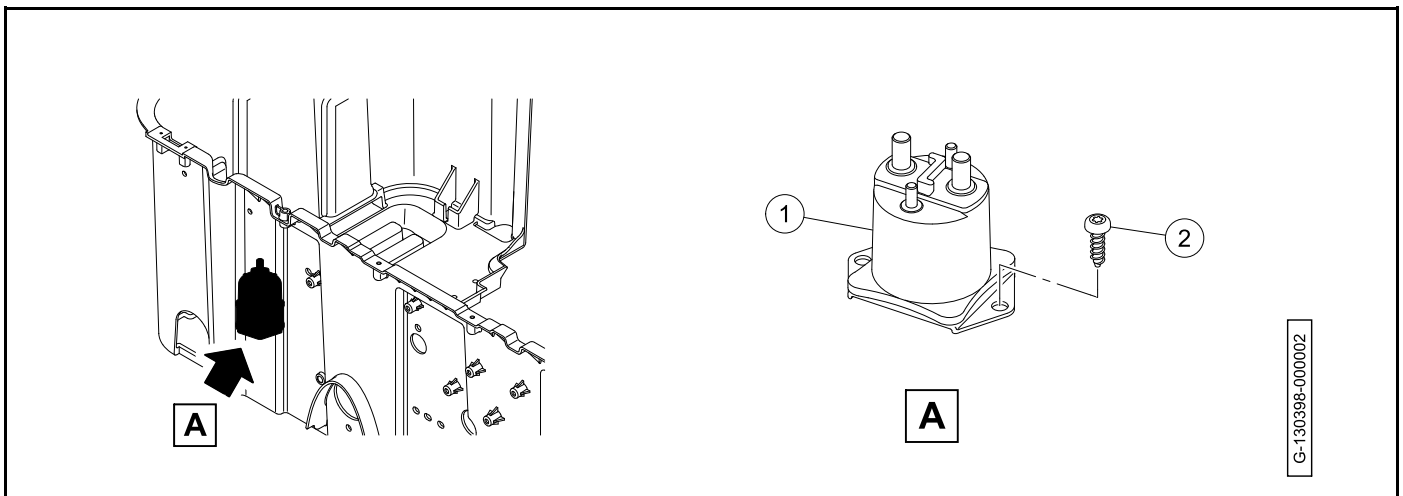

Figure 20-19 Solenoid Installation
1. Install the solenoid (1) in the vehicle (**Figure 20-19, Page 20-19**).